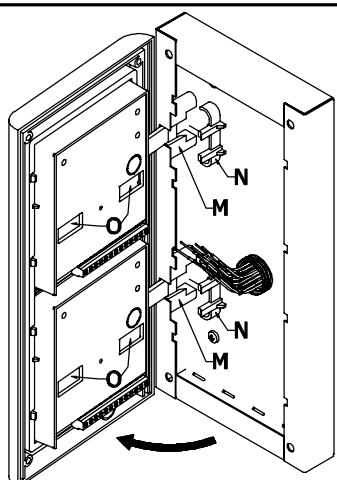
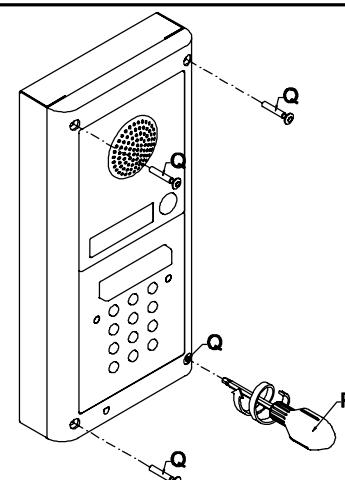

Fig.7
Fig.8
- As shown in figure 7, open the module support frame **H** as suggested by the pointer, hook the hinge locks **N** to the hinges **M**, make the required connections using the screwdriver (Ref.P figure 8) provided (blade flat side) and make the required adjustment by adjusting the settings (through openings **O**) and adjust trimmers;
- When the system has been tested and is working correctly, move back the module support frames carefully, fix them to the surface box using the screwdriver provided **P** (blade torx side) and the pin machine torx screws **Q** as shown on figure 8. **Note: do not overtighten the screws more than is necessary.**
- Come mostrato in figura 7, ruotare il supporto moduli **H** come suggerito dalla freccia, agganciare i fermi **N** delle cerniere agli alloggiamenti **M**, collegare i fili utilizzando il cacciavite (lato piatto) fornito a corredo (Rif.P fig.8) ed eseguire le opportune regolazioni dei moduli agendo attraverso i fori dei trimmer o le fessure **O**;